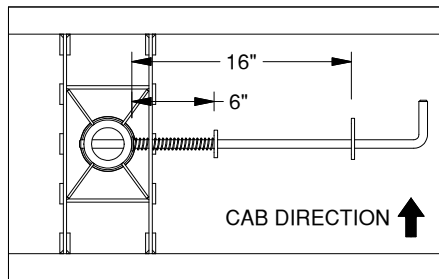

Figure 6
- 4. Install the latch pin handle.** Place the spring onto the latch pin handle, and then insert the handle through the handle guide with round hole. Position the handle into the hole in the receiver socket. Measure 6" from the socket to the handle guide with round hole, and weld it to the bed floor. With the latch pin handle inside the socket, place the handle guide with slotted hole onto the handle. Position the handle guide with slotted hole 16" from the socket and placed so that the handle is one one side of the slot, with the other side of the slot towards the cab. Weld the handle guide with slotted hole to the bed floor, see Figures 6 & 7.